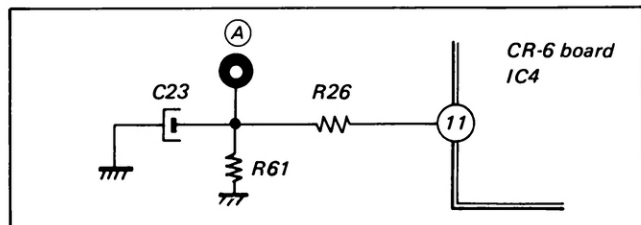

Fig. 4-17. Measurement point
- (1) Play back the β II mode of the alignment tape.
- (2) Connect the oscilloscope to point (A) shown in Fig. 4-17. (Input; dc range)